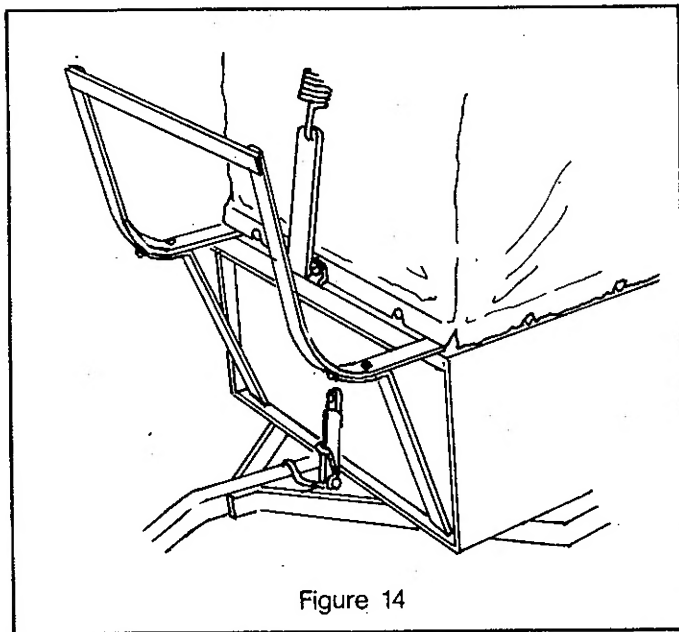

Figure 14
4. The storage rack is assembled and hung on the front of the cart. No hardware for mounting is required. (Figure 14).